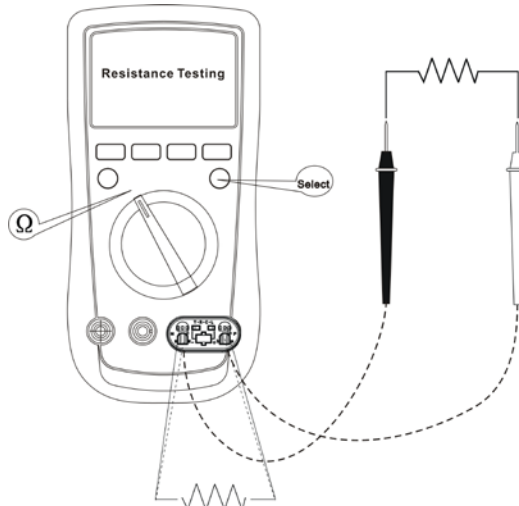

Figure 7
D. Resistance Testing (see figure 7)